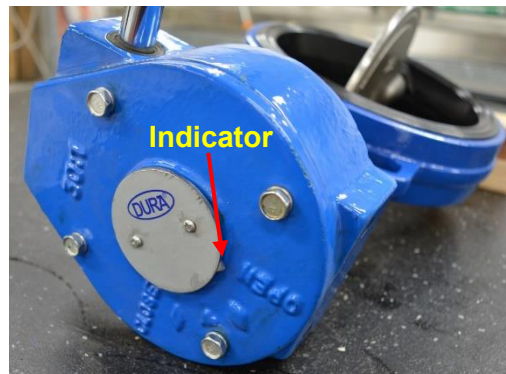

Figure 1
- Manually turn the gear operator hand wheel until the indicator is pointed to the open position. **(See Figure 1)**